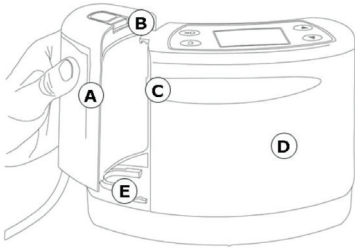

Fig. 1 Connecting the disposable exudate canister
1. Remove the disposable exudate canister (fig. 1 (A)) from packaging.
2. Slide canister onto guiding rails (fig. 1 (E)) of the PRO-II device until the disposable exudate canister clicks into place in the locking mechanism (fig. 1 (B)).